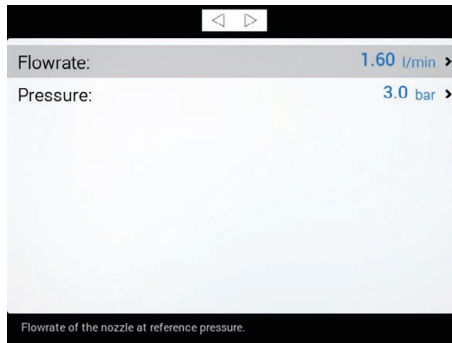

Fig. 92
- Enter the relevant features (Fig. 92).